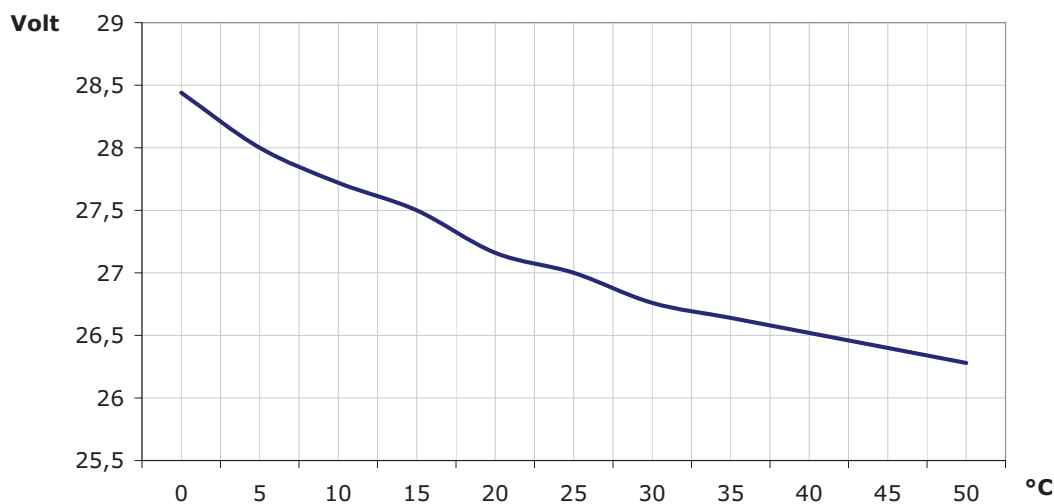

Figure 28 - Voltage charge in relation to the battery temperature
5. Using the graph *Figure 28 - Voltage charge in relation to the battery temperature* find the optimized heat-transfer measurement for the charge.